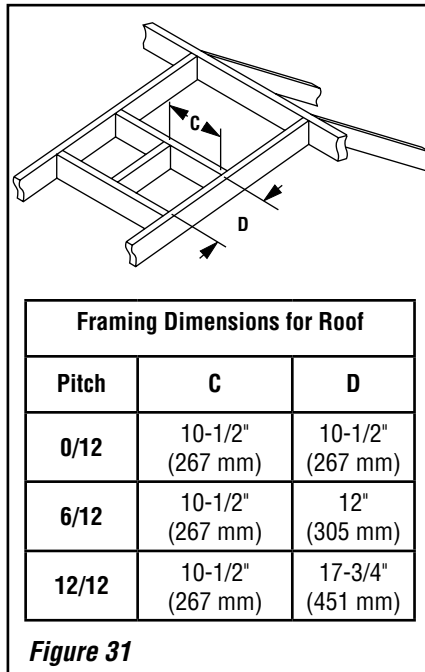

Figure 31
H. Frame roof opening - Identify location for vent at the roof. Cut and/or frame opening per Roof Framing Chart and **Figure 31**.